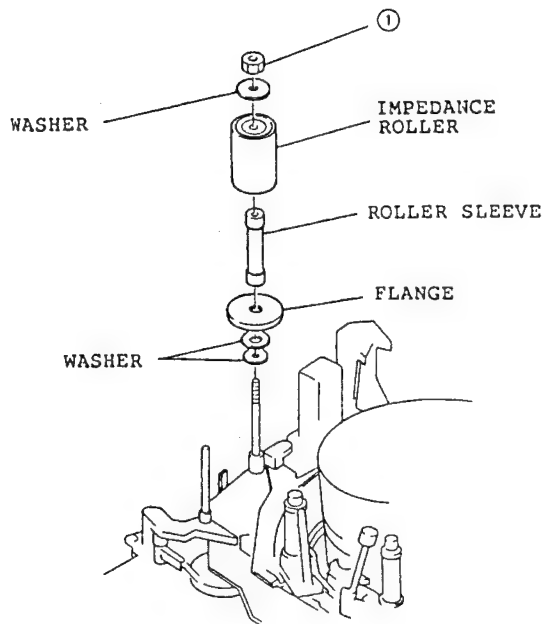

Fig. 2-67
1. Remove one (1) nut holding the impedance roller and pull out the roller from the chassis. (See Fig. 2-67)